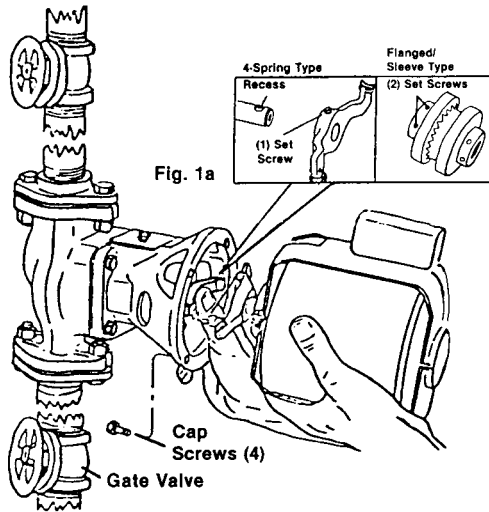

FIG 1. Removing motor assembly
- 2B Remove motor assembly (and attached coupler) by removing 4 cap screws. See FIG. 1.